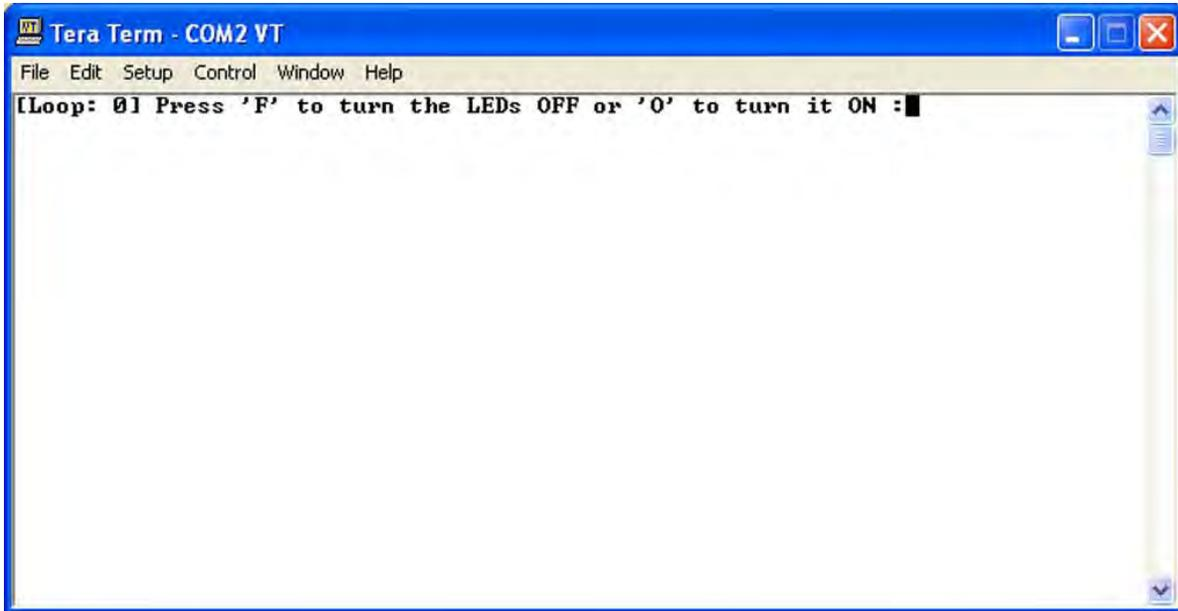

Figure 8. Terminal Display After Reset
6. The LEDs on the Development Board will illuminate, and HyperTerminal will display a message, as shown in Figure 8.